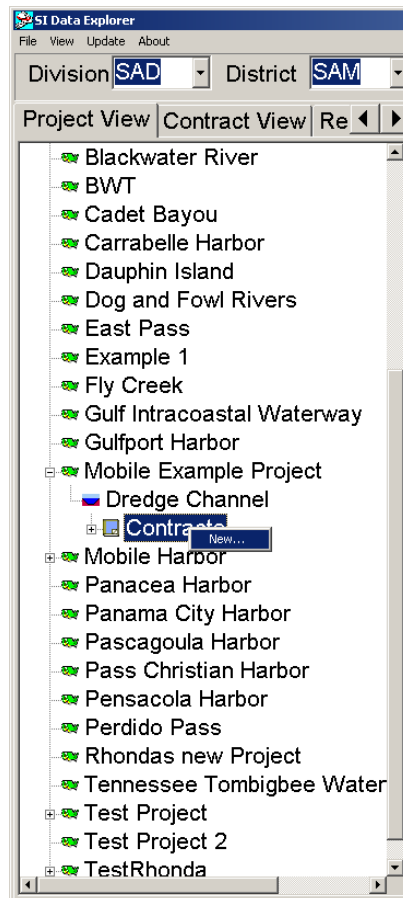

Figure 1.9 Creating a new contract
1. Right click on *contract* just below the sub-project as shown in Figure 1.9.